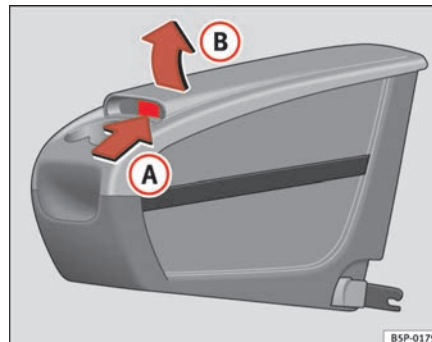

Fig. 113 Mobile stowage compartment Opening
- Lift the cover **(B)**, in area **(A)** ⇒ page 144, fig. 113.